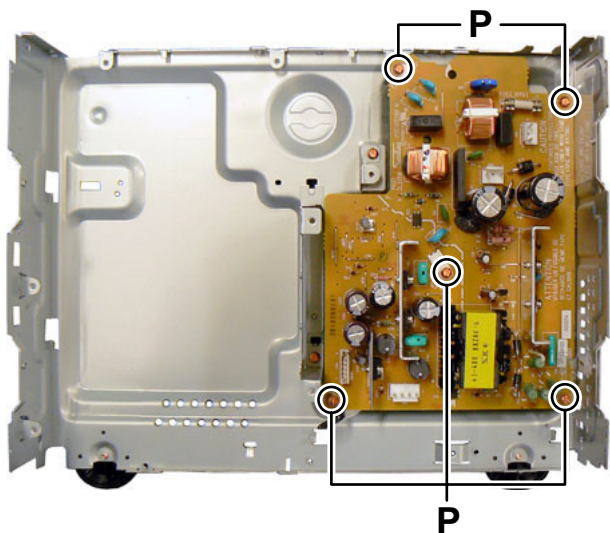

Fig.16
3.1.8 Removing the Power supply unit (see Fig.16)